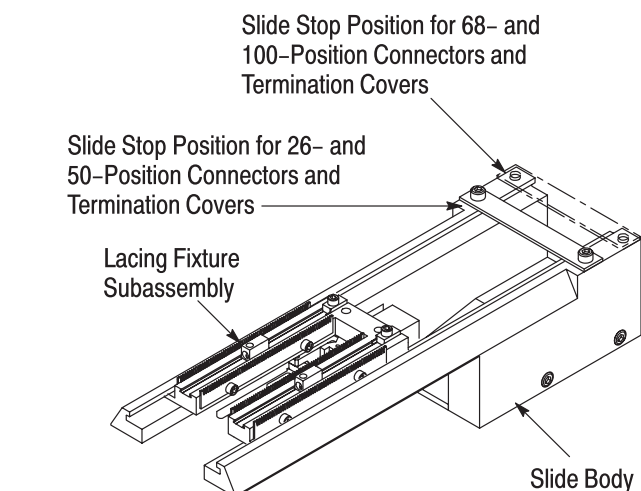

Figure 5
6. Align the slide stop with the appropriate pair of mounting holes in the slide body, and insert and tighten the two mounting screws. Refer to Figure 5.
7. Place the lacing fixture subassembly onto the slide body as shown in Figure 5.